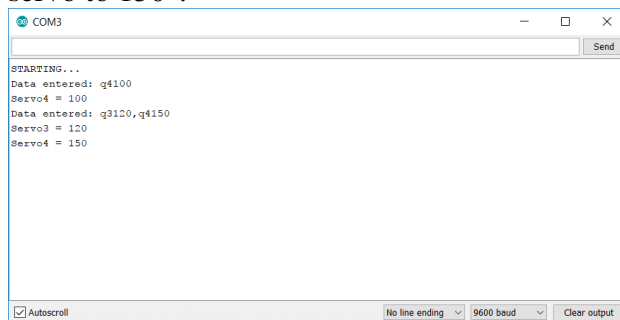
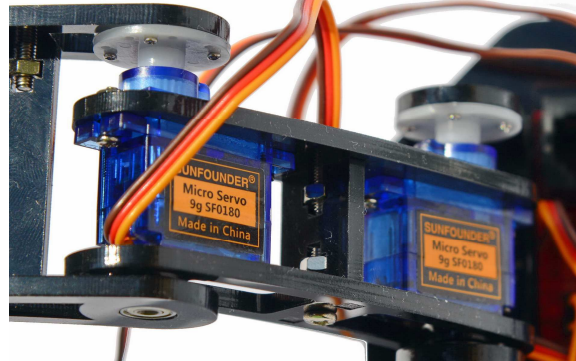

Fig. 6. – Arduino IDE built-in serial monitor window.
Fig. 9. – Real SunFounder servos from the package.
up to 12 motors on most Arduino boards. The `attach()` function is used to connect the Servo object to a pin. The `write()` function will set the angle of the shaft (in degrees), moving the shaft to that orientation. Arduino boards are using serial communication on pins TX/RX which are TTL logic levels (5V or 3.3V depending on the board and not +/- 12V). All Arduino boards have at least one serial port (also known as a UART or USART) called Serial. It communicates on digital pins 0 (RX) and 1 (TX) as well as with the computer via USB. The Serial port has functions that can be used to communicate over the port to some other serial device. Also, the Arduino IDE has a built-in serial monitor to communicate with an Arduino board (see Figure 6). This must have the same baud rate (9600 baud in this case) used in the call to `Serial.begin()` function. `Serial.write()` sends bytes to the serial port while `Serial.print()` sends ASCII characters so people can read easily. `Serial.available()` gets the number of bytes (characters) available for reading from the serial port and stored in the serial receive buffer (which holds 64 bytes).
The SunFounder servos should have been as those presented in the Users Manual (see Figure 8), that is Digital Servo 9g Metal Gear SF180M. However, as shown in Figure 9, all servos are of type 9g SF180. This means that the gear part is made of plastic and not metal. All four servos are 9g that is they have 9 grams and they can rotate 180° . The connector for this type of servo is shown in Figure 6.